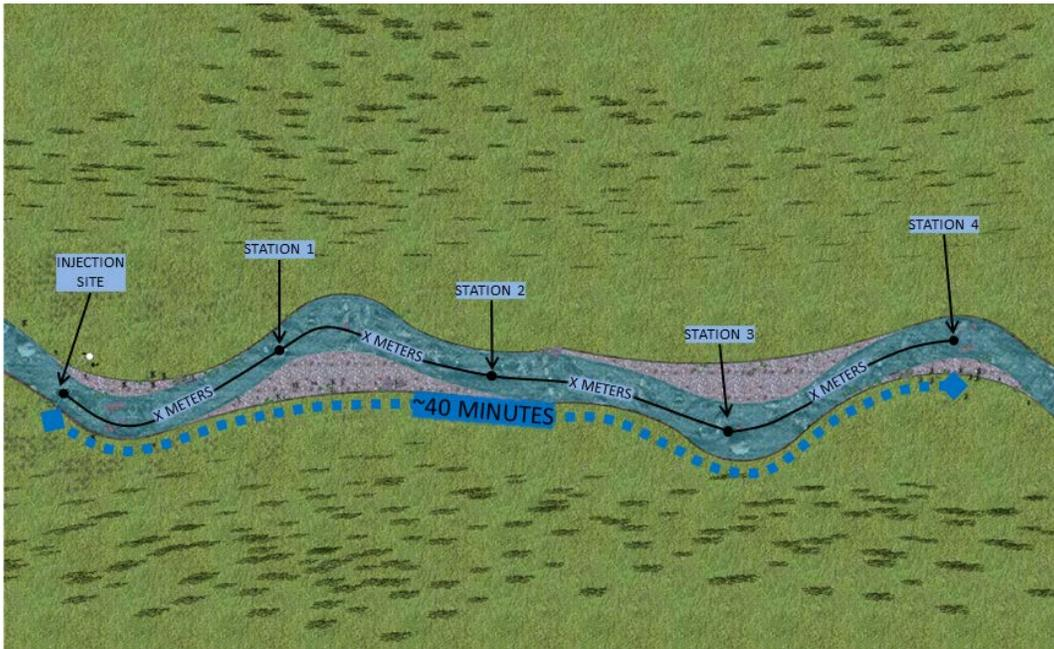

Figure 4. Schematic of stream reach with injection site and four downstream sampling stations. Travel time between Station 1 and 4 should be ~40 minutes.
- a. There will be 4 sampling stations within the reach, located downstream of the injection site (Figure 4).
1. First, visit each of the four sampling stations (Figure 4), and at each station record four conductivity measurements from the stream thalweg (i.e. the main flow of the stream), for a total of 16 conductivity measurements (See RD[05], Field Data Sheets). Make sure the hand-held conductivity meter is set on the temperature-corrected setting (the °C should be flashing). If the setting is not correct, press the mode button until you enter the temperature-corrected mode. Wait for the meter to adjust to the stream temperature for more accurate conductivity measurements.
14. Once the most DOWNSTREAM station has reached plateau, start sampling at the most UPSTREAM station (i.e., Station 1, the station closest to the injection site) and work downstream (Figure 4). The idea is that you are following a parcel of water as it moves downstream.